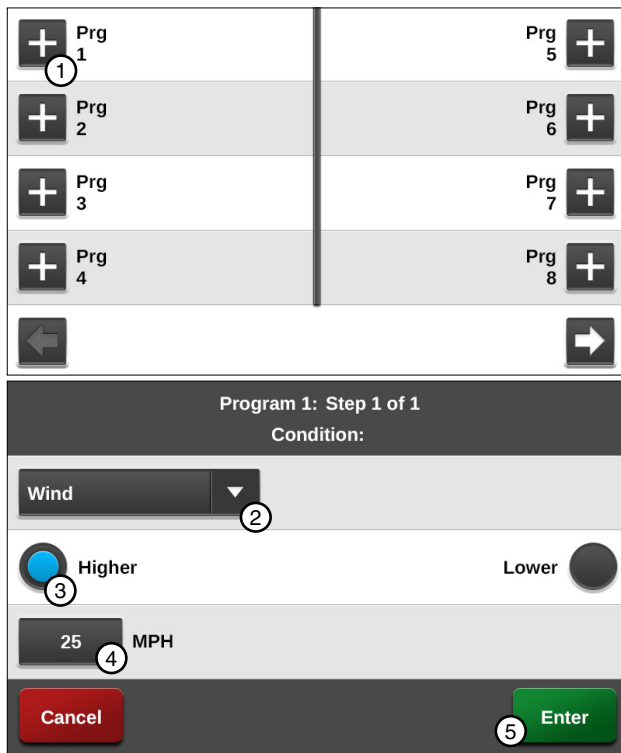

Figure 122-1 1. New Program 2. Wind Condition 3. Higher 4. MPH 5. Enter
2. Push the **New Program** button corresponding to the preferred program number as shown in Figure 122-1.
- a) Select the **Choose Condition** drop-down menu and choose **Wind**. Refer to Figure 122-1.